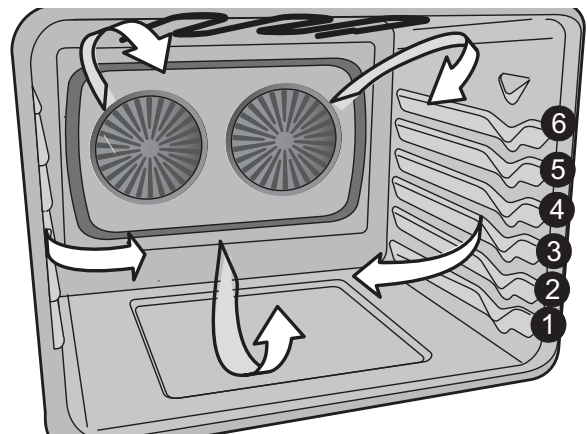

Figure 11: Rack positions
2. Place pan in oven on rack position 3 (Figure 11) and close oven door. AccelaHeat is designed for baking on a single oven rack placed in the center of the oven.